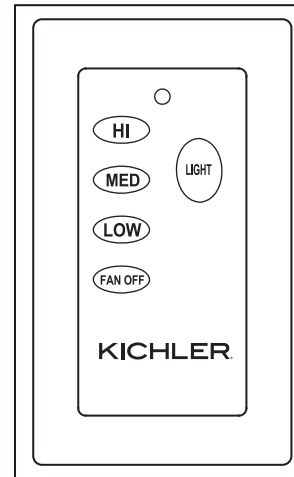

Fig. 21
- Light Button = the "LIGHT" button turns the light ON or OFF and also controls the brightness setting. (**Fig. 21**)